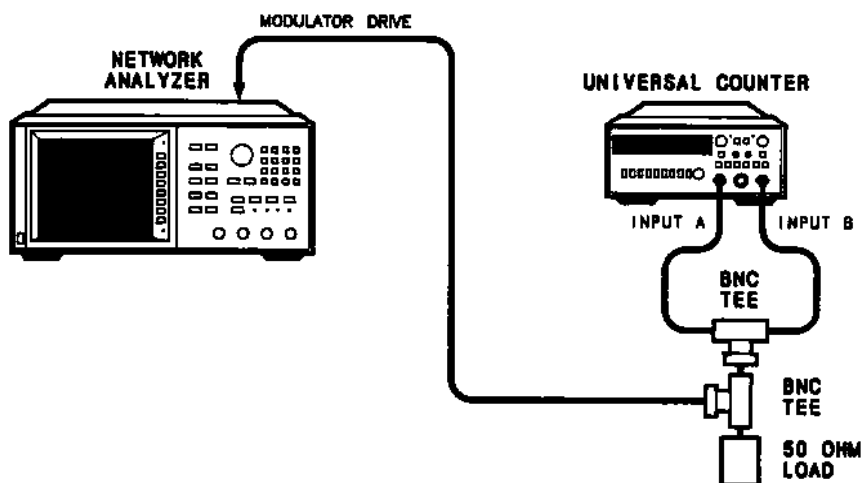

Figure 4-2. Frequency Accuracy and Symmetry Test Setup
1. Connect the equipment as shown in figure 4-2 with no connection to the universal counter inputs A and B. Press [FREQ A] and set all other buttons out.